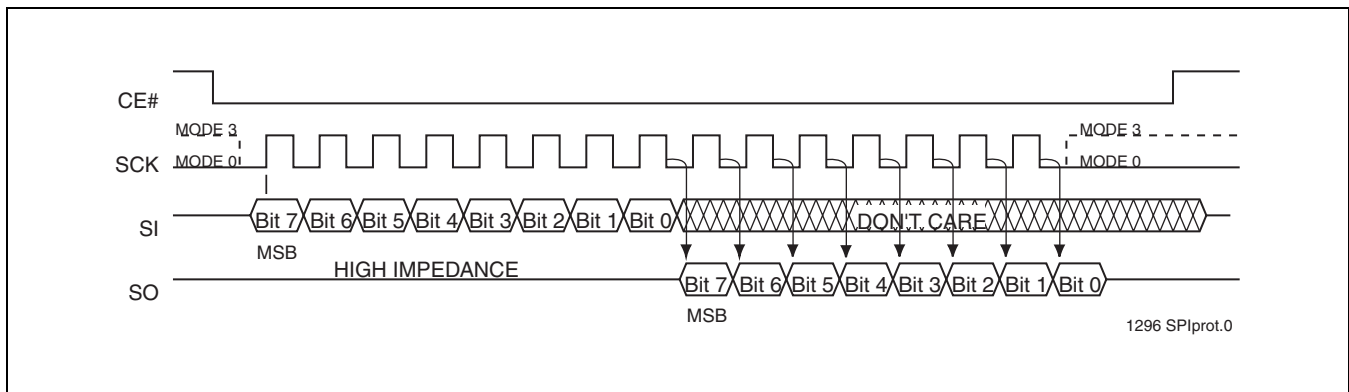

FIGURE 3: SPI Protocol
The PCT25VF080B supports both Mode 0 (0,0) and Mode 3 (1,1) of SPI bus operations. The difference between the two modes, as shown in Figure 3, is the state of the SCK signal when the bus master is in Stand-by mode and no data is being transferred. The SCK signal is low for Mode 0 and SCK signal is high for Mode 3. For both modes, the Serial Data In (SI) is sampled at the rising edge of the SCK clock signal and the Serial Data Output (SO) is driven after the falling edge of the SCK clock signal.